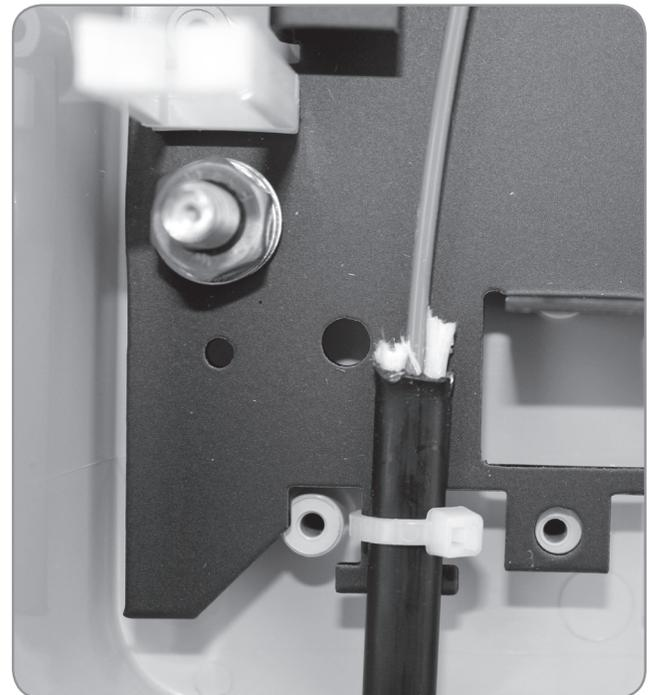

Figure 2
3. Secure the cable to the retention bracket using a tie wrap. **(Figure 2)**
3. Secure the cable to the retention bracket using a tie wrap. (Figure 2)